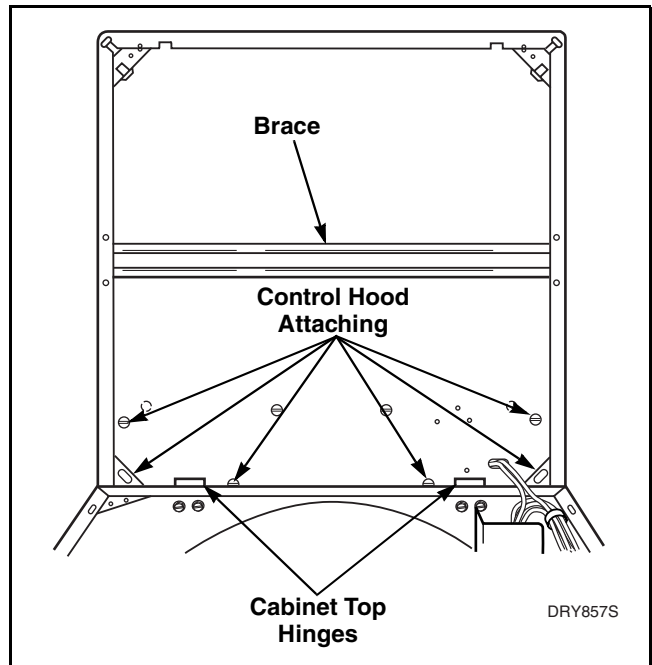

Figure 18
- Lift front of cabinet top and disengage from hinges on rear of cabinet. Refer to *Figure 18*.